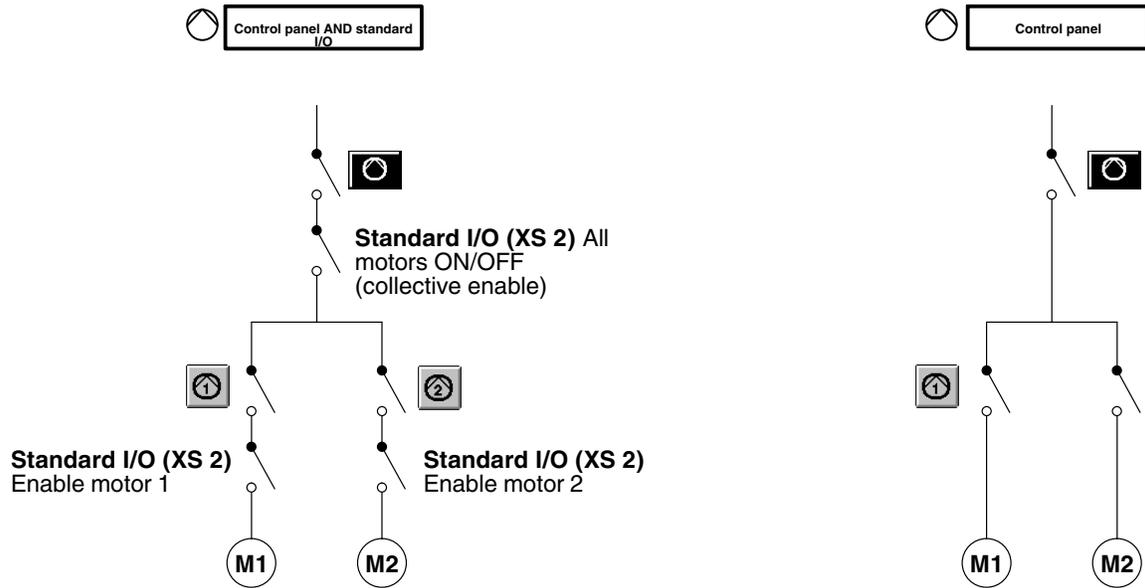

Fig. 4-8 Conditions for Motor running with and without interface Standard I/O
5. Enable the motor(s) (Fig. 4-8).
6. Switch on the motor(s) (Fig. 4-8).